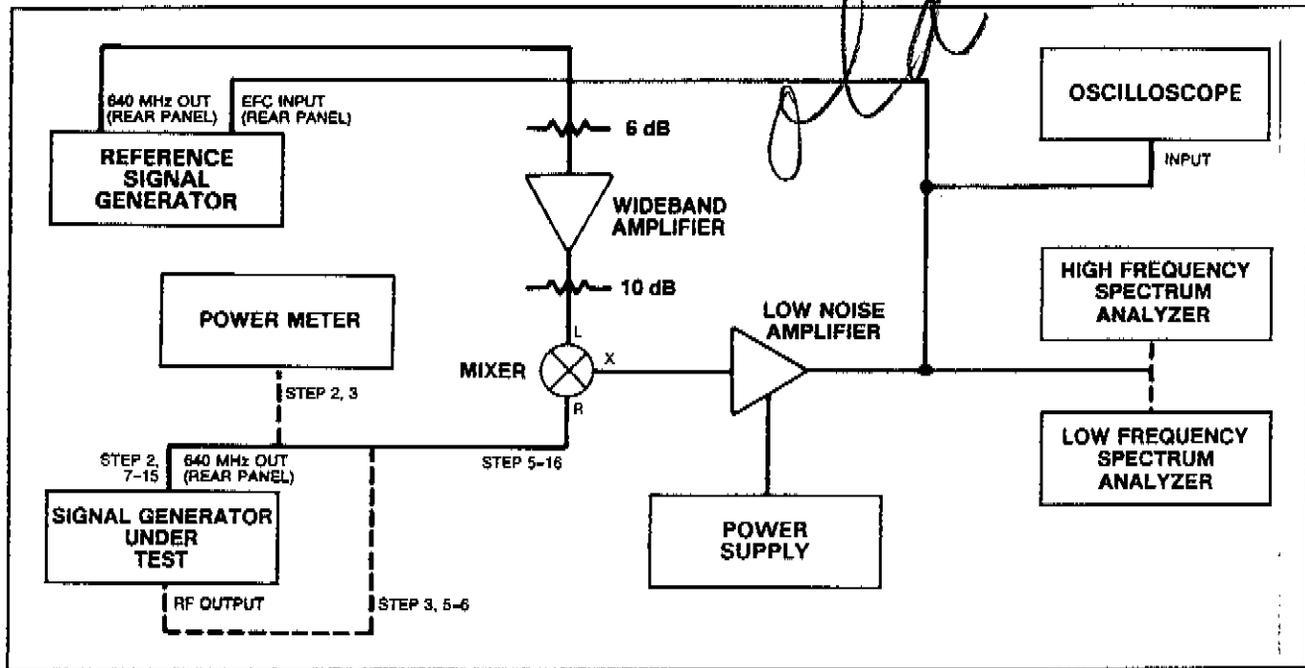

Figure 4-14. Absolute SSB Phase Noise of rear Panel 640 MHz Output (Option 003 Only) Test Setup
1. Connect the equipment as shown in Figure 4-14. Both the Reference Signal Generator and Signal Generator Under Test must have their Reference Oscillator switches set to INT. The signal level into the L input of the mixer should be in the range, +7 to +10 dBm. Change the value of the pads, if necessary, to obtain this output level.